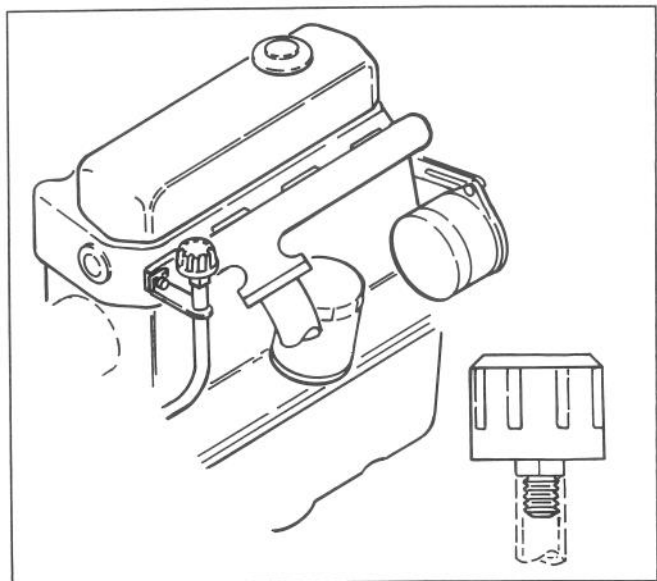

Figure 47
2. Clean around the breather and unscrew it with a wrench (Fig. 47). Install a new breather.